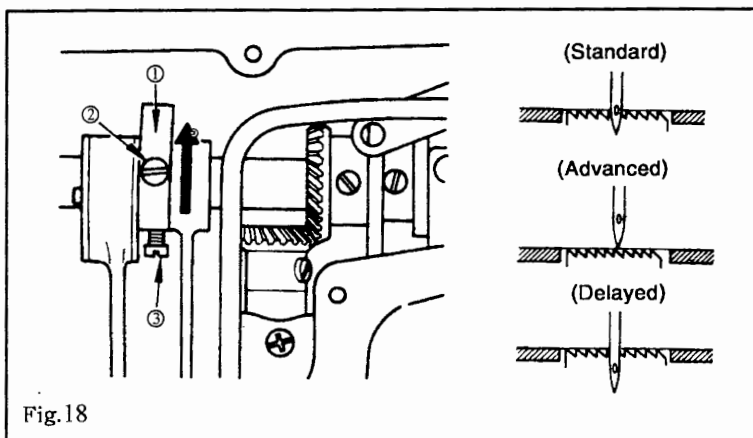

Fig.18
- 1) Loosen nut ②. As you turn presser spring regulator ① clockwise (in direction ①), the presser foot pressure will be increased.
- 2) As you turn the presser spring regulator counterclockwise (in direction ②), the pressure will be decreased.
- 3) After adjustment, tighten nut ②.
12. ADJUSTING THE FEED TIMING (Fig.18)